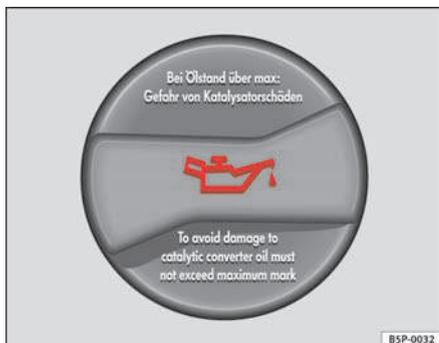

Fig. 124 In the engine compartment: Engine oil filler cap
- Unscrew cap from oil filler opening ⇒ **fig. 124**.